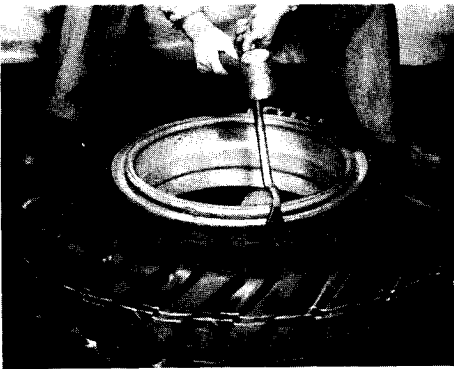
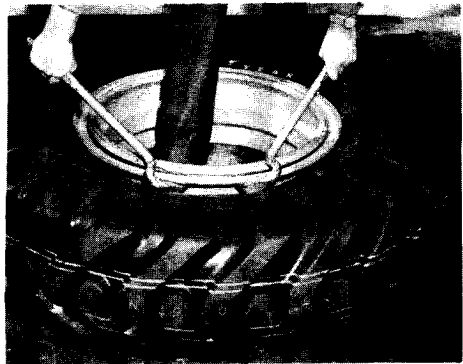

Figure 98
Figure 99
3. Drive the flat ends of two tire tools between the tire and flange with a babbitt hammer, Figure 98. Locate the tools a few inches apart for greater prying action, Figure 99.
action. Continue moving and prying in successive steps around the circumference of the rim, Figure 99, until the bead is entirely loose.
8. Turn the tire and rim assembly over and using the two tire tools, loosen the rim base flange in the same manner as described in Step 4, Figure 99.